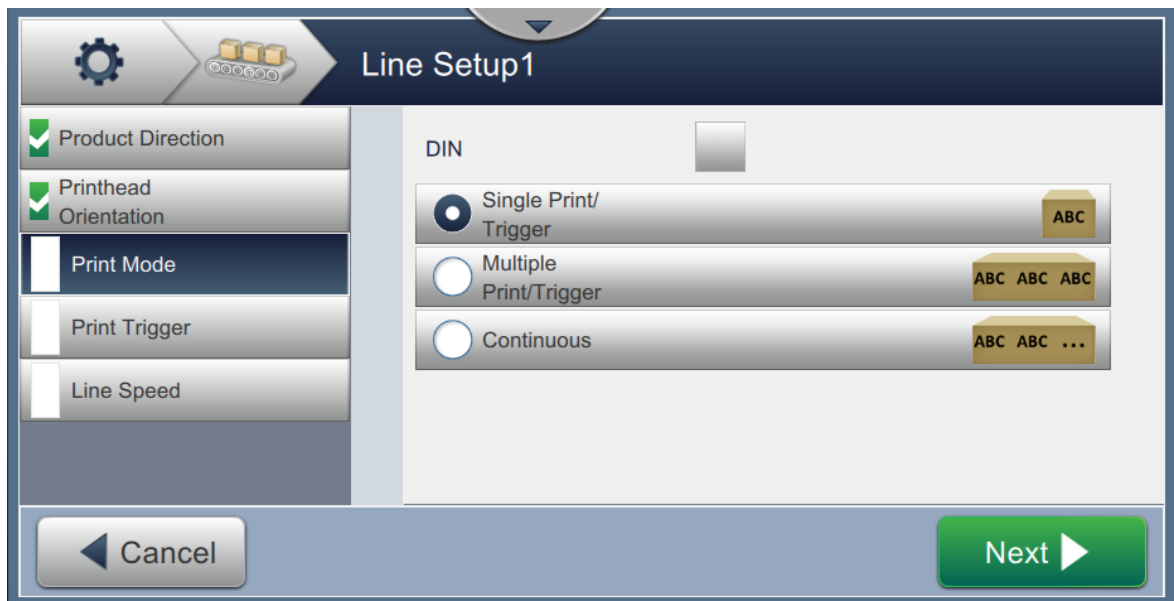

Figure 6-29: Line Setup - Print Mode
1. Touch the *Print Mode* on the Line Setup Setting screen as shown in Figure 6-29.
1. Select the *Multiple* option as shown in Figure 6-29. Touch the  button.
1. Select the *Continuous* option as shown in Figure 6-29. Touch the  button.